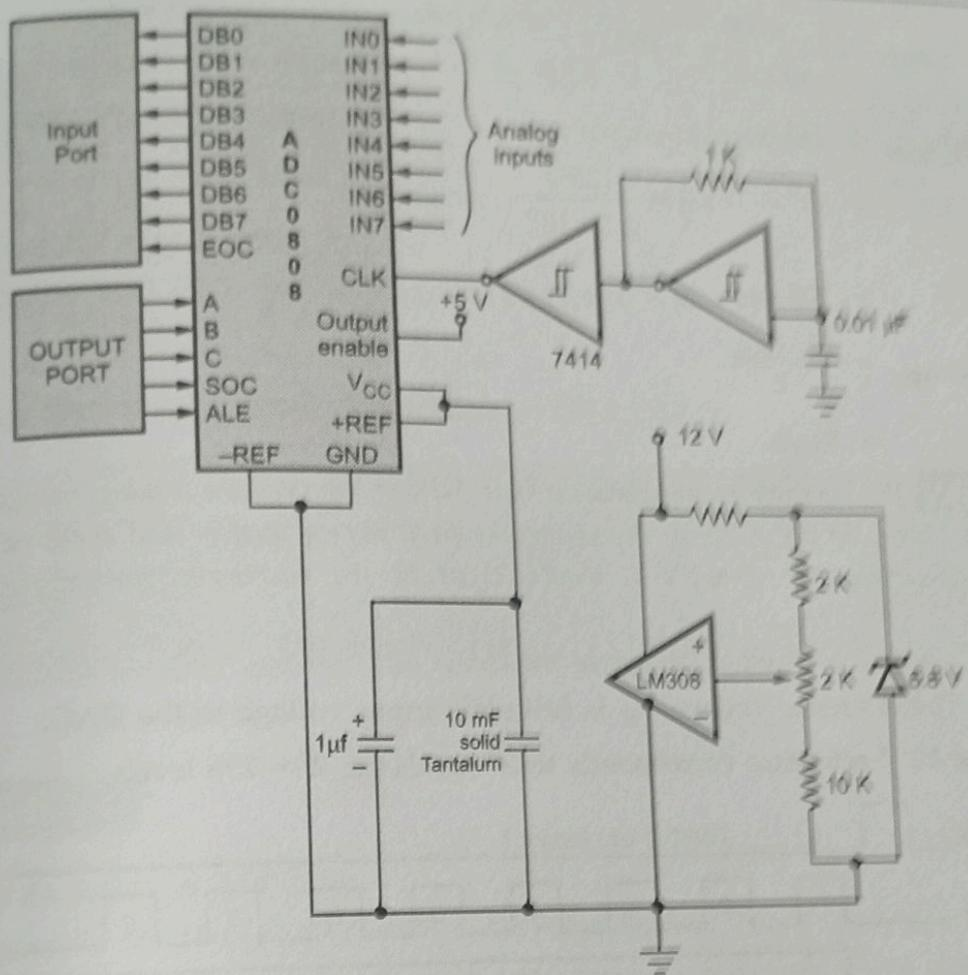

Fig. 3.6.3 Typical interface for 0808/0809
- Fig. 3.6.3 shows typical interfacing circuit for ADC 0808 with microprocessor system.